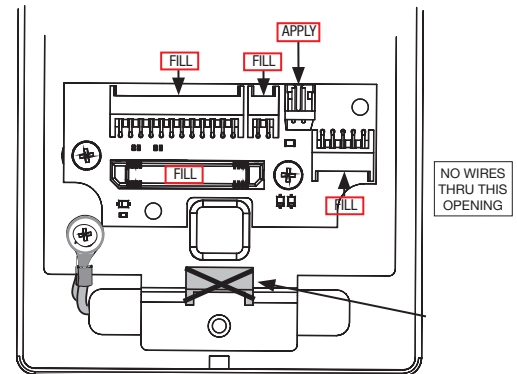
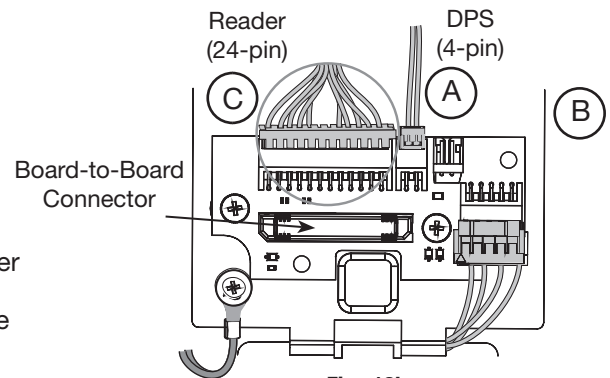

Fig. 16a
Fig. 16b
- Ensure all connector pins and contacts (Fig. 16a) are covered - **do not overfill or over-apply\*\***
IMPORTANT: Do not run wires through bottom hole in plate (Fig. 16a, b) - it will damage wires and the controller connector. Route wires around flange, do not route wires through the flange hole (Fig. 16b).
#### Secure the following connectors (Fig. 16b, c):
- Secure the mounting assembly while ensuring proper alignment of outside reader and fully tighten the (2) through-bolts on the inside of the door to secure the reader and plate to the door
- Secure the 24-pin card reader connector (Fig. 16b, c).